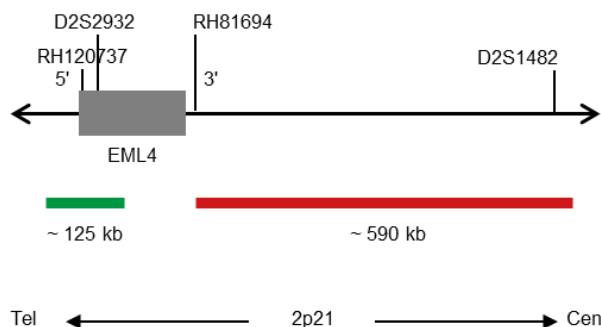

Fig. 1: SPEC EML4 Probe map (not to scale)
- Digoxigenin-labeled polynucleotides (~0.50 ng/μl), which target sequences mapping in 2p21\* (chr2:42,342,038-42,464,761) distal to the EML4 breakpoint region (see Fig. 1).
- Dinitrophenyl-labeled polynucleotides (~0.75 ng/μl), which target sequences mapping in 2p21\* (chr2:42,576,262-43,163,545) proximal to the EML4 breakpoint region (see Fig. 1).